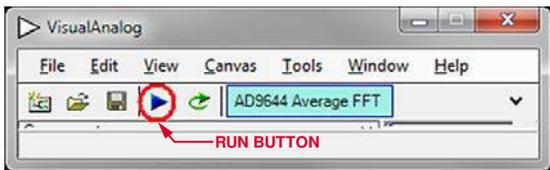

Figure 14. Run Button in VisualAnalog Toolbar, Collapsed Display
8. Click the **Run** button in the **VisualAnalog** toolbar (see Figure 14).